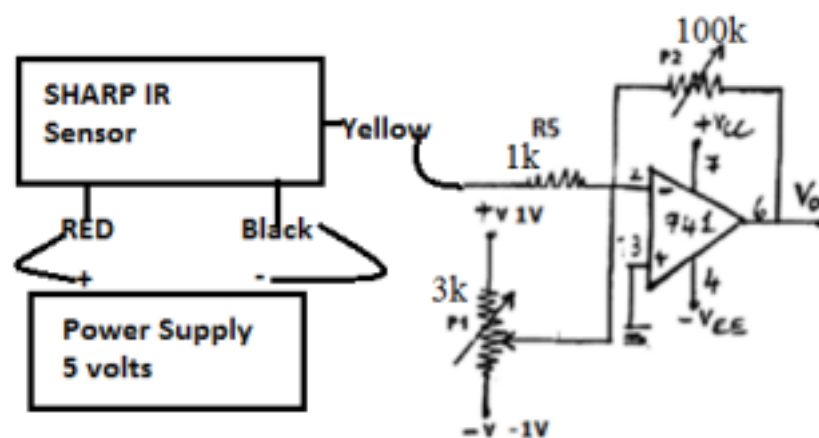

Fig. 1: Signal condition circuit
1. Rig up the circuit as shown in the Fig.1